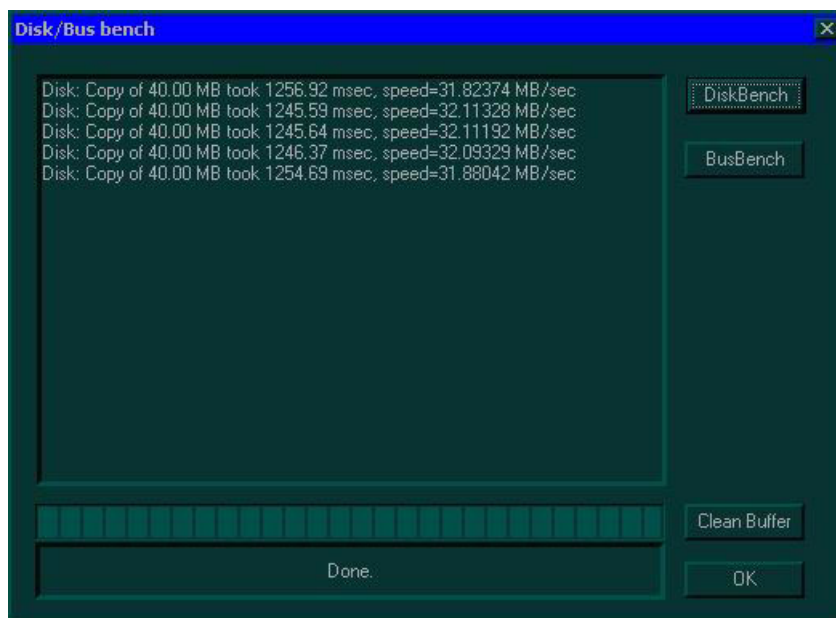

Figure 7-56 Disk/Bus Bench Window
- 3) Trackball to the **Check Disc/Bus** button and press **Select**. The **Disk/Bus Bench** window is displayed as shown in Figure 7-56 "Disk/Bus Bench Window" on page 7-85.